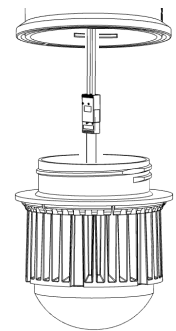

Figure 2 - Connect wiring harness to supply wires, then connect orange connectors.
4. Connect the white supply wire (neutral) to the white fixture wire using a wire connector (sold separately). Figure 2.
5. Connect the HOT (usually black) supply wire to the black fixture lead (120V) using a wire connector (sold separately). Figure 2.
6. Connect orange wiring harness connector coming from existing fixture to orange connector on the Q-Lux. Make sure connection is secure. Figure 2.